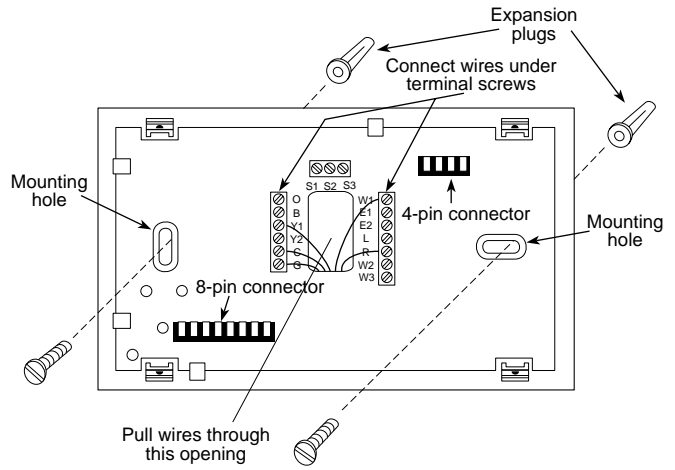

Figure 3. Subbase
2. Connect wires beneath terminal screws on subbase using wiring schematic for your particular application (see figs. 3 through 6).
5. Fasten subbase loosely to wall, as shown in fig. 3, using two mounting screws. Place a level against bottom of subbase, adjust until level, and then tighten screws. (Leveling is for appearance only and will not affect thermostat operation.) If you are using existing mounting holes, or if holes drilled are too large and do not allow you to tighten subbase snugly, use plastic expansion plugs to secure subbase.